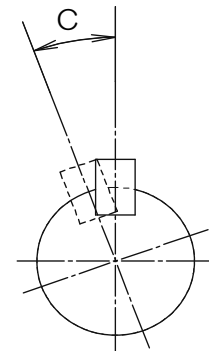

Fig. 6. Input backlash
- ALL types --- Check for backlash between the worm and worm gear. Backlash excess of 30° for H speed and 60° for L speed indicates the need to replace the worm and worm gear. (Angle C in Fig.6)